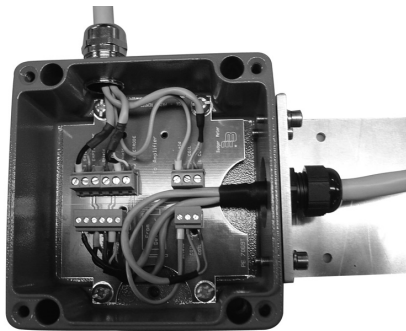

Figure 4: Wiring complete
3. After wiring is complete, the assembly should look like Figure 4.